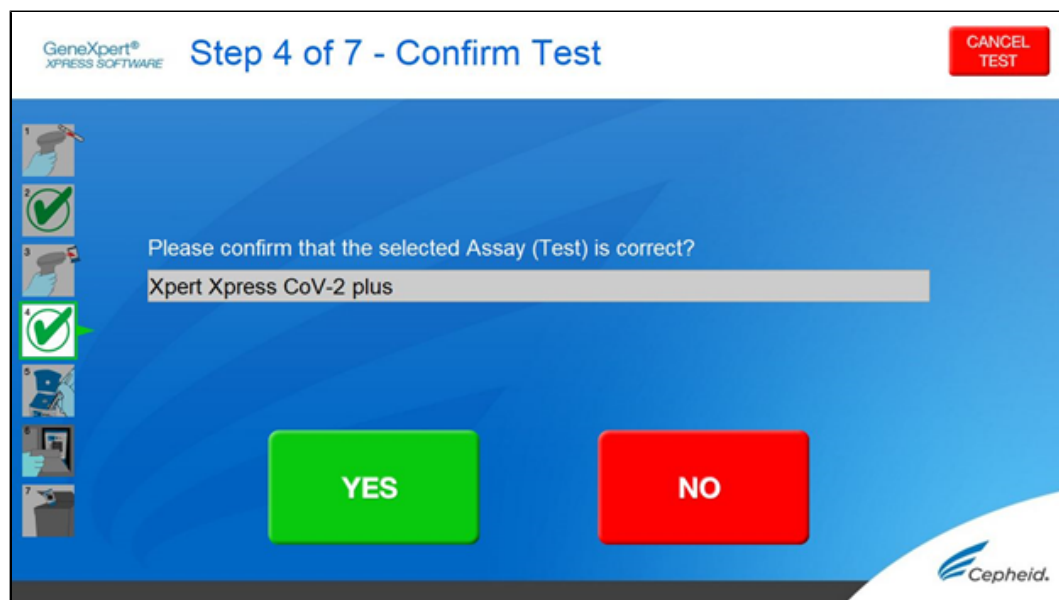

Figure 9. ConfirmTest Screen - Select Assay
3. Make the appropriate selection from the Select Assay menu, as shown in Figure 9.